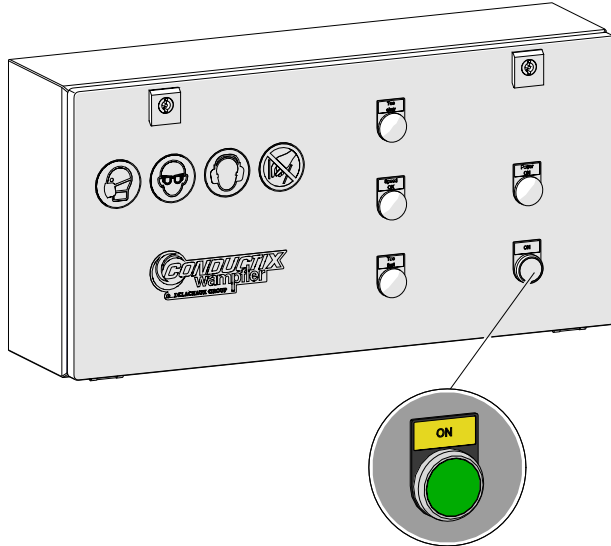

Fig. 30: Voltage Release switch on the power supply
- e. Press the voltage release switch on the Cleaning Device (see Fig. 30).